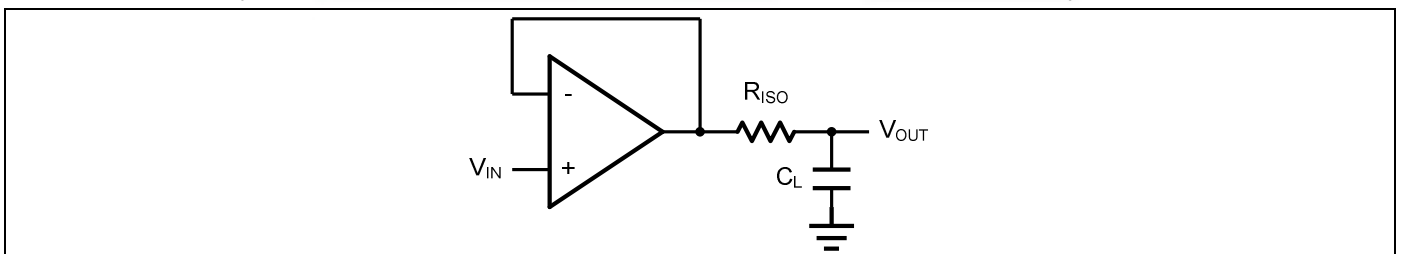
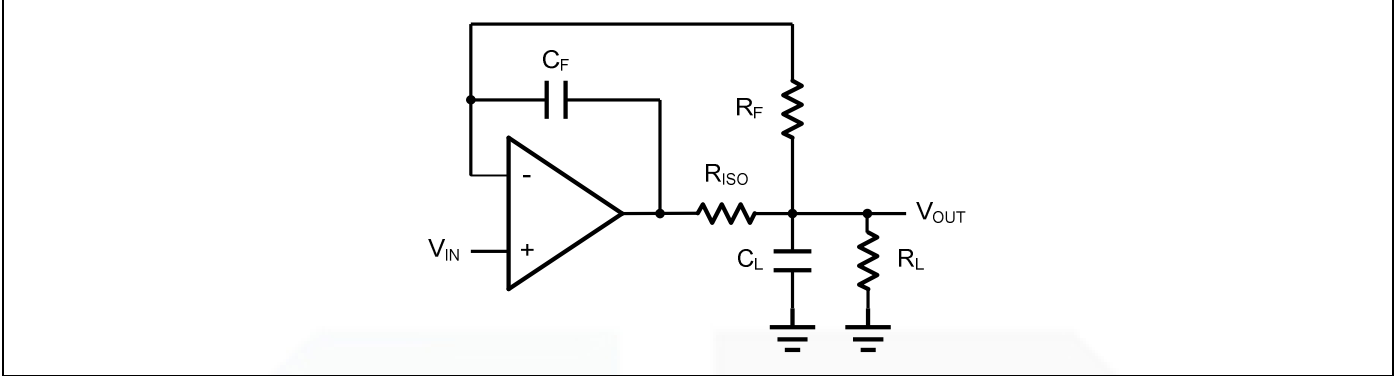

Figure 2. Indirectly Driving a Capacitive Load Using Isolation Resistor
Figure 3. Indirectly Driving a Capacitive Load with DC Accuracy
The GS321 family is optimized for bandwidth and speed, not for driving capacitive loads. Output capacitance will create a pole in the amplifier's feedback path, leading to excessive peaking and potential oscillation. If dealing with load capacitance is a requirement of the application, the two strategies to consider are (1) using a small resistor in series with the amplifier's output and the load capacitance and (2) reducing the bandwidth of the amplifier's feedback loop by increasing the overall noise gain. Figure 2. shows a unity gain follower using the series resistor strategy. The resistor isolates the output from the capacitance and, more importantly, creates a zero in the feedback path that compensates for the pole created by the output capacitance.
The circuit in *Figure 3* is an improvement to the one in *Figure 2*.  $R_{\text{F}}$  provides the DC accuracy by feed-forward the  $V_{\text{IN}}$  to  $R_{\text{L}}$ .  $C_{\text{F}}$